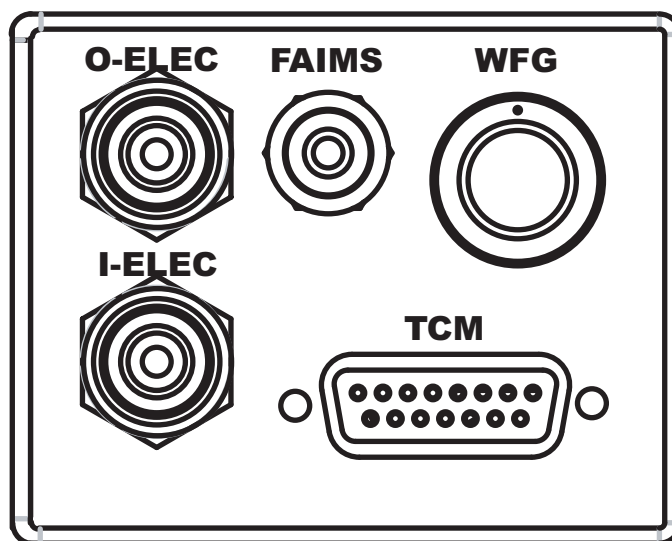

Figure 76. Heater box connection panel
7. Connect the gas lines and cables to the heater box connection panel, as Figure 76 and Figure 55 on page 81 show.